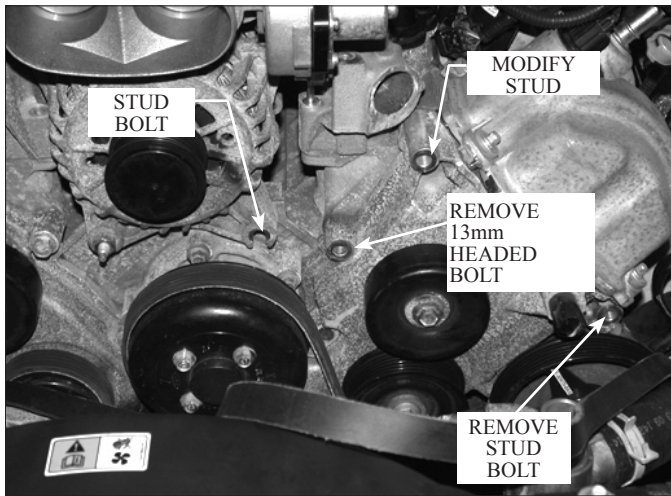

Fig. 1-k
- R. There is a small tab that secures the wiring harness in place on the valve cover that will need to be removed to gain clearance for the super-charger belt. This tab is best removed with a small air saw but a grinder will work. After removal, smooth the area to prevent damage to the belt. (See Figs. 1-l, 1-m.)